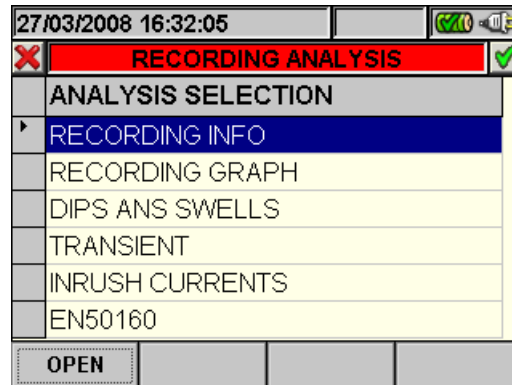

Fig. 125: Recording analysis (Reg-type data)
2. Press the **ESC** key (or the smart icon ) to exit the function and go back to the “Recording analysis” page (Fig. 125).
- The **ESC** key (or smart icon) to exit the function and go back to the “Recording analysis” page (Fig. 125).
- The **ESC** key (or smart icon ) to exit the function and go back to the “Recording analysis” page (Fig. 125).